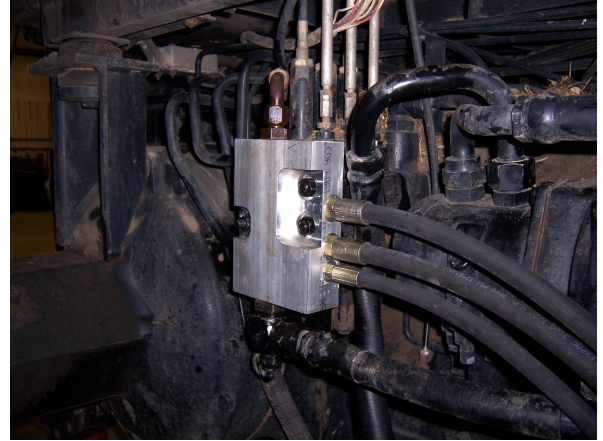

Fig 1-1
2. First remove old valve block from tractor and then attach valve block kit (Part #2) using existing nuts and o-rings to tractor. **See in Fig. 1-1.** Also, see instruction Sheet (677841) attached with that kit.